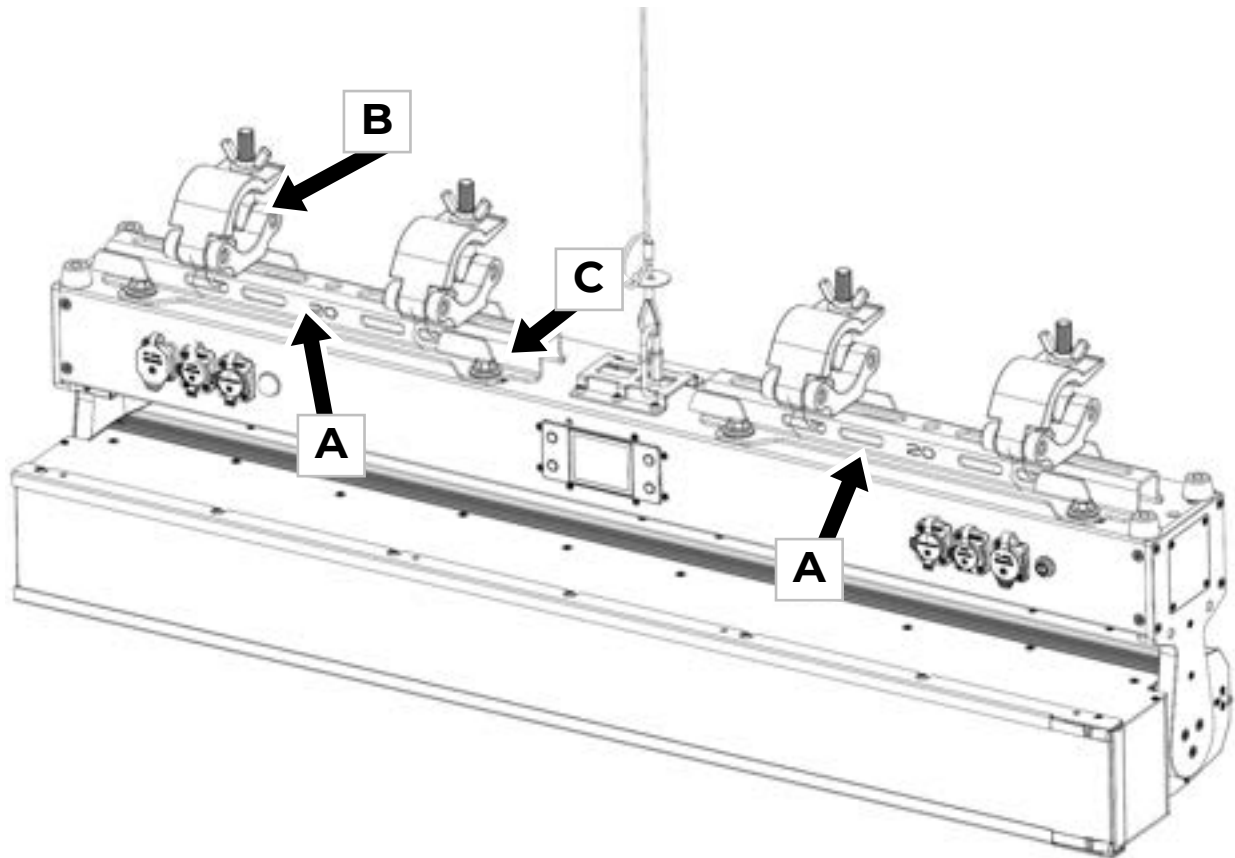

Figure 7. Rigging brackets
2. See Figure 7. Bolt one or two rigging clamps **B** securely to each of the two rigging brackets **A** that are supplied with the fixture using high-tensile steel screws or bolts and self-locking nuts with washers passed through the central slots or holes in the rigging brackets.